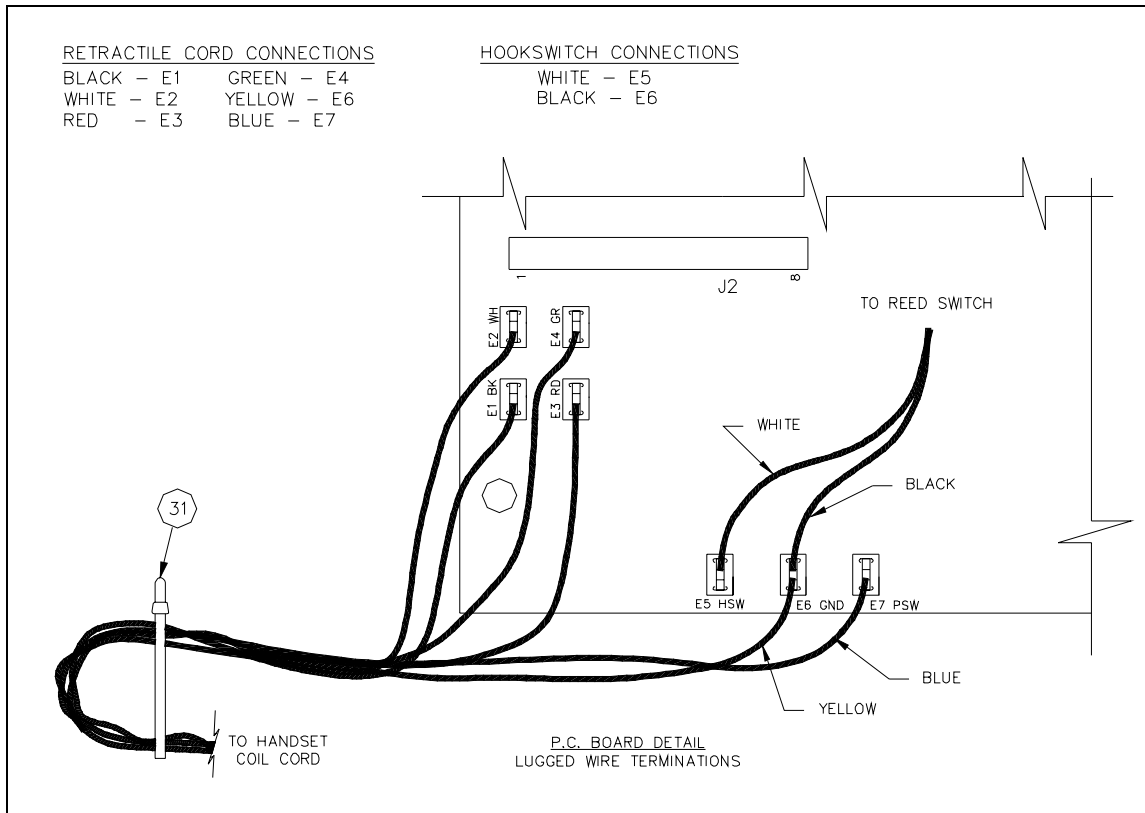

Figure 1.
4. Reconnect spade lugs. See Figure 1.